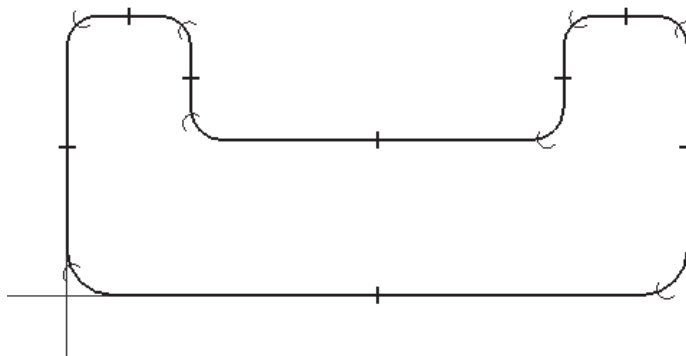

Figure 1-27 Sketch after creating fillets
6. Select the remaining corners of the sketch one by one and fillet them with a radius of 10. The sketch, after creating fillets, is shown in Figure 1-27.